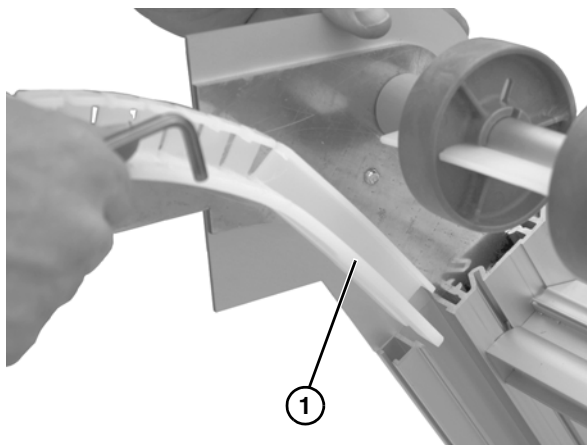

Figure 81
5. Remove belt return wearstrip (**Figure 81, item 1**). Repeat on other side.